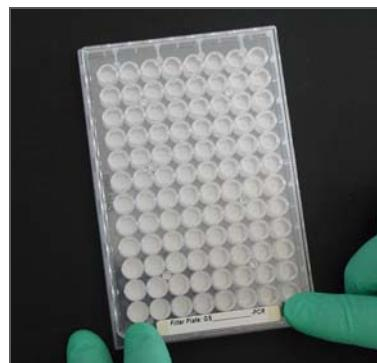

Figure 93 Apply Label to Filter Plate
- ▶ Write the PCR plate barcode number in the space provided on a "Filter Plate: GS _____ -PCR" label. Apply the label to the top surface of the filter plate, adjacent to column 12 (Figure 93).